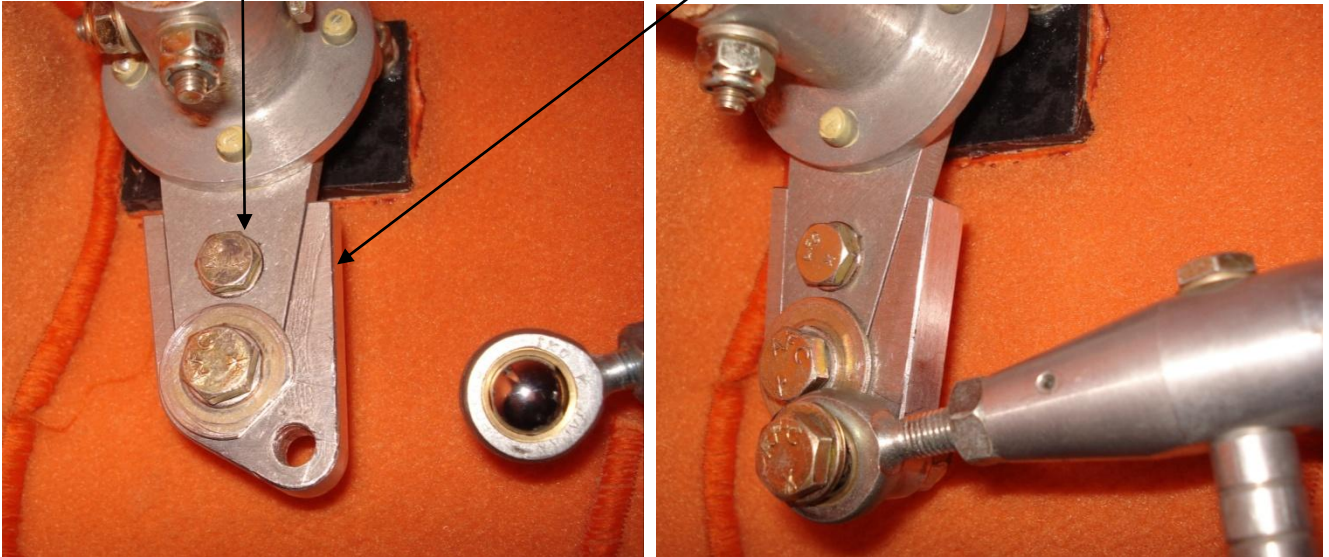

Figure 4 – Adaptor in Place
- Bolt the adaptor to the arm using 1 off ¼” and 1 off 3/16” bolts, orienting it as shown in Figure 4. Wipe off any excess resin. Both bolts can be fitted from the cabin side of the drive arm – care will be needed to use the correct length bolt so that the tails of the bolts do